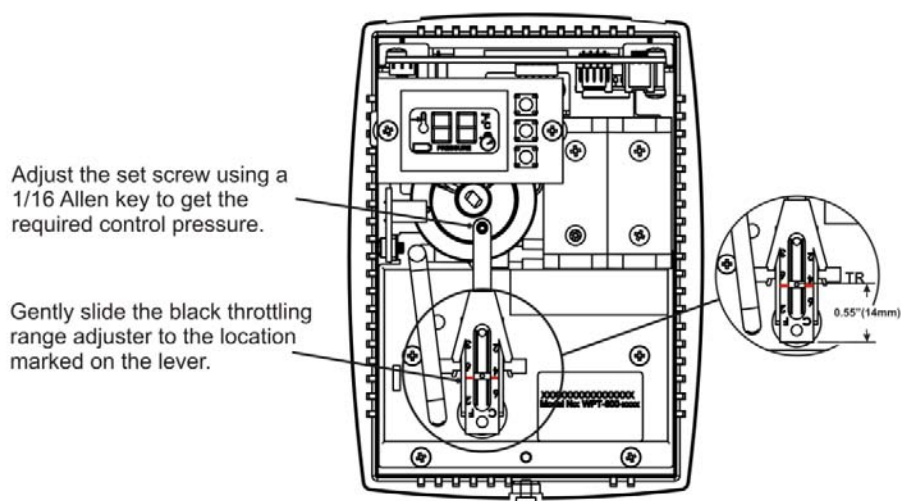

Figure 12. WPT-DB Calibration
NOTE: The black throttling range adjuster has been factory set to the location marked on the lever as shown in Figure 12. The factory setting provides a Throttling Range (TR) of 4F. This TR adjuster **MUST NOT BE MOVED** in order to ensure proper operation and accuracy of the WPT-DB.
4. Use a 1/16" hex Allen wrench and very carefully turn the calibration set screw on the thermostat lever, shown in Figure 12, until the branch pressure is equal to the desired control point. Use extreme caution not to allow the lever to rotate sideways while adjusting the setscrew. Damage to the bi-metallic spring can result if the end of the lever is allowed to move left or right by more than 1/16".